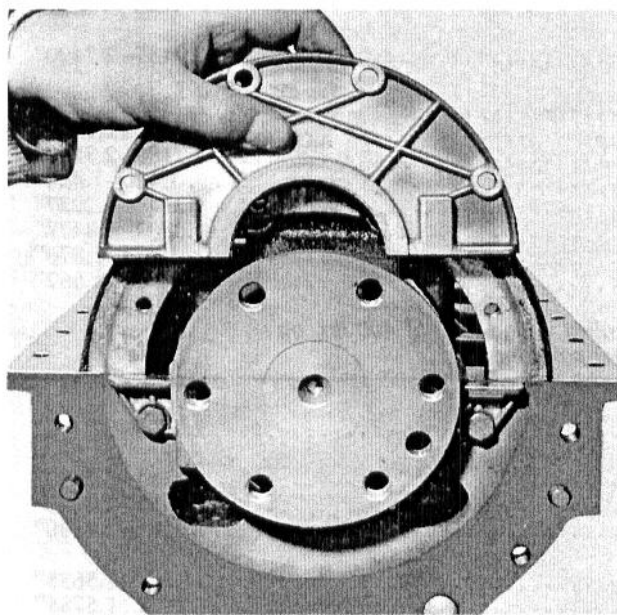

Fig. 26 — Removing or Installing Oil Seal Retainers
2. Remove the oil seal retainers as shown in Fig. 26 and remove oil seal halves from retainers.